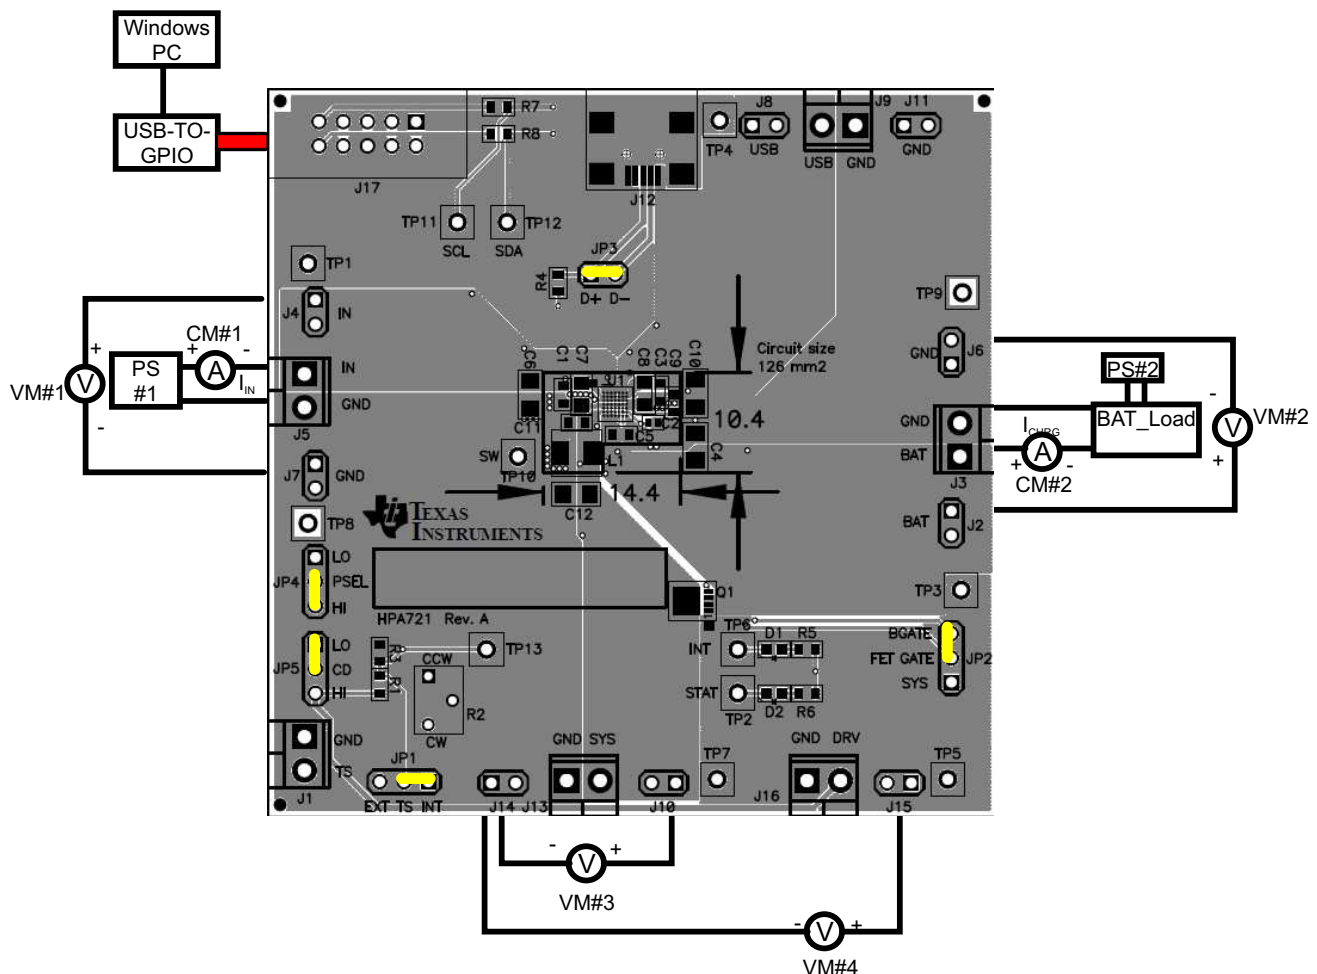

Figure 4. Original Test Setup for bq24160/161/163/168EVM (HPA721)
9. After the preceding steps have been performed, the test setup for HPA721 is configured as is shown in Figure 4